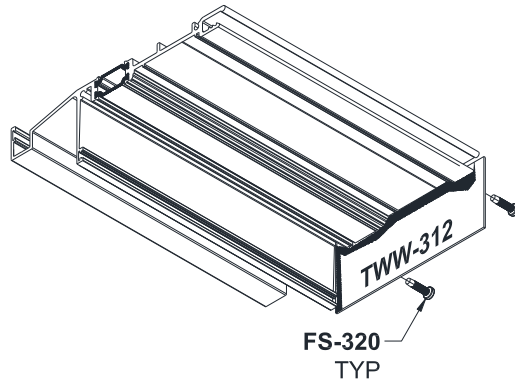

Figure 26: Head Receptor End Dam Attachment
- 11.2 Attach **TWW-312** End Dam with (2) **FS-320** fasteners, as shown in *Figure 26*, stopping 1/4" short of attaching completely.